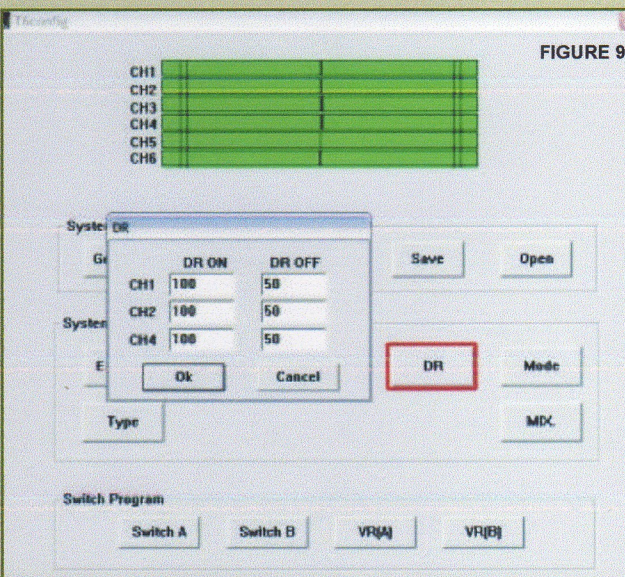

FIGURE 9
5. Dual rating is a little more complex. First, you must select what channels you want to dual rate by clicking on the DR button (**Figure 9**) and changing the values for DR ON and DR OFF; 100 and 18 worked well on Channel 4 in my bot hockey robots to calm down the steering